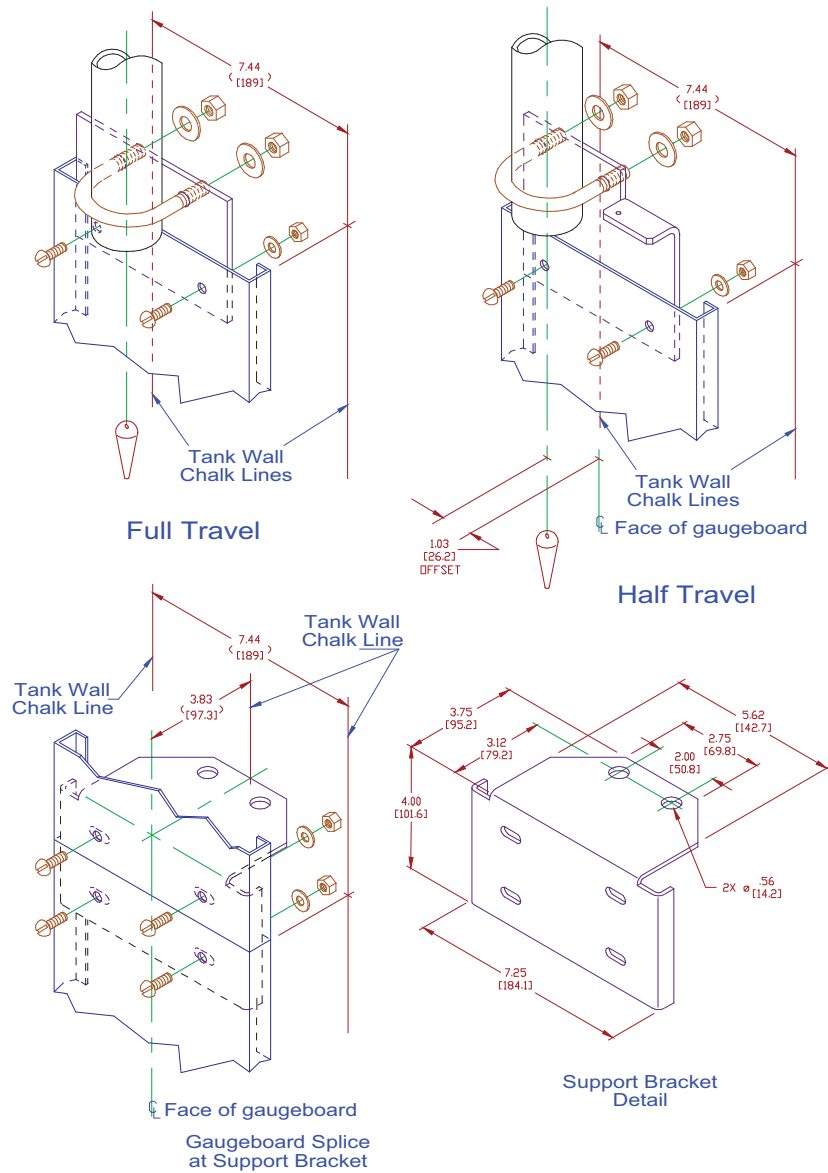

Figure 9: Gaugeboard Installation
Board offset (1.03 inches [26.2 mm]) to the right of the chalked plumb line (see Figure 9 on page 18).
18. Drop a chalk line from the top of the tank parallel with the plumb line and mark the chalk line on the tank wall. See Figure 9 on page 18.
22. Bolt the gaugeboard support brackets into position (see Figure 9 on page 18). The first gaugehead support bracket mounts near the top of the tank. The others are spaced at seven foot [2.13.m] intervals except for the one at the bottom of the tank.
23. Use the “U” bolt and nuts (see Figure 9) to attach the gaugeboard connector to the pipe. The pipe should extend one inch [25.4 mm] below the “U” bolt.
25. Attach the remainder of the sections to the bottom of the tank. Make certain that each section is centered on the chalk line (see Figure 9 on page 18).
33. Put the cable crimp (see Figure 9) on the end of the cable, then thread the cable through the hole in the tank. Loop the cable on the outside back through the cable crimp and temporarily tape it to the crimp.